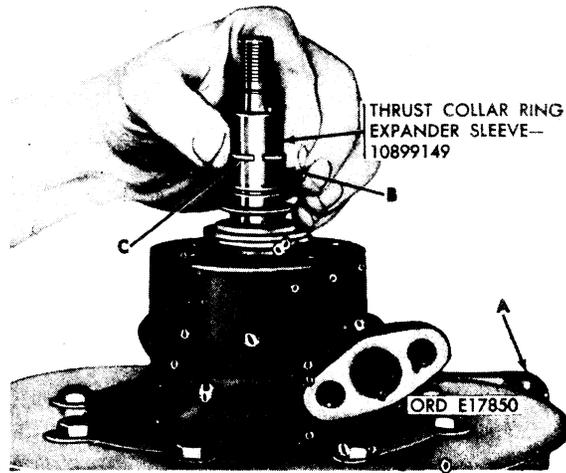
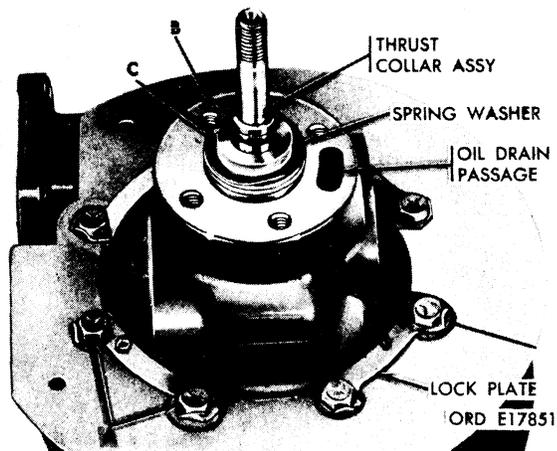

FIGURE 52. INSTALLING PISTON RINGS ON THRUST COLLAR ASSEMBLY OR FLINGER SLEEVE - TURBOCHARGERS 7748900 AND 10935279.
FIGURE 53. INSTALLING COMPRESSOR HOUSING GASKET AND SPRING WASHER ON THRUST COLLAR ASSEMBLY - TURBOCHARGERS 7748900 AND 10935279.
- (f) Position collar and compressor wheel replacer - 10899147 (H) over thrust collar assembly.
- (g) Press thrust collar assembly (B) for turbocharger 7748900, or flinger sleeve (E) for turbocharger 10935279, on shaft until it bottoms against shoulder on shaft.
(2) Refer to figure 52.
- (a) Clamp unit in a vise on turbine housing mounting flange (A).
- (b) Place collar ring expander sleeve - 10899149 (B) over thrust collar assembly or flinger sleeve.
- (c) Install two new thrust collar piston rings (C) into two grooves of thrust collar assembly or flinger sleeve. Rotate rings until gaps are 180 degrees apart. Lubricate rings with engine oil (OE).
- (d) Remove collar ring expander - 10899149 (B).
(3) Refer to figure 53.
- (a) Bend tabs on four lock plates securely against the heads of eight cap screws (A).
- (b) Position new compressor housing gasket (B) on mating surface of bearing housing. Make certain screw holes and oil drain passage in gasket and housing are alined.